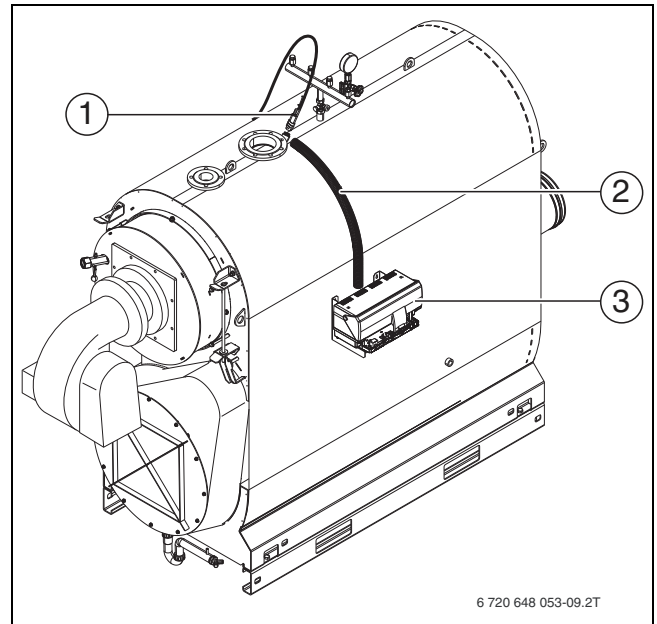

Fig. 26 Cable conduit at the control unit
The temperature sensors of the high limit safety cut-out (STB) and of the temperature controller (TR) **must** be fitted at the installation location (→ fig. 26, [1], page 25) on the top of the boiler.
The boiler test point is at the top of the boiler shell (→ fig. 26, [1], page 25).